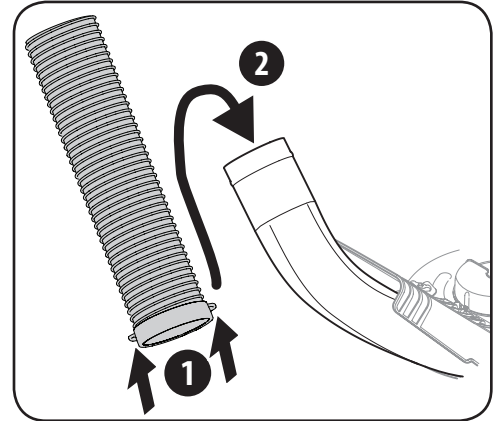

Figure 4-21
2. Lift by the handles at the bottom of the chute tube. Slide the chute tube over the chute elbow mounted on the cutting deck, as shown in Figure 4-21.